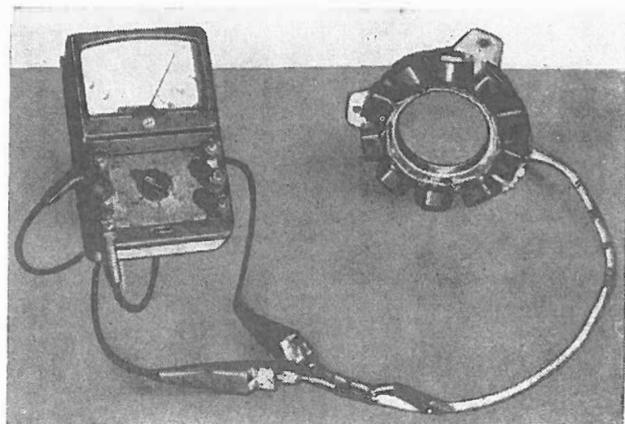

Fig. 57
- Verificare con un ohmetro la continuità tra cavo rosso e giallo e l'isolamento della massa (Fig. 57).
Check that stator windings have no unsoldered connections and burn marks, or grounded wires. With an Ohmmeter check for continuity between red lead and yellow lead, as well as for ground insulation (Fig.57).
Vérifier avec un ohmmètre la continuité entre le fil rouge et celui jaune, ainsi que l'isolation de la masse (fig.57).